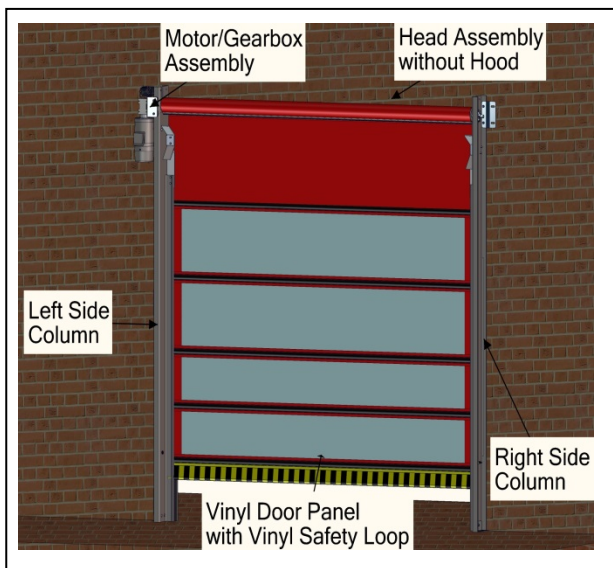

Figure 2
Figure 2 shows the location of the major components of the door and the general placement of the associated sub-assemblies for a typical installation.
*NOTE: Figure 2 shows the front of the door. Left and right are determined when viewing the front of the door.*